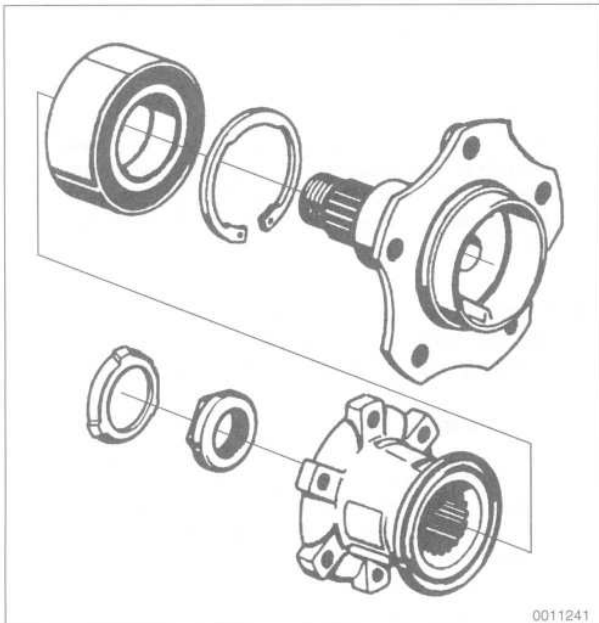

Fig. 6. Rear wheel bearing assembly.
The wheel bearing is pressed into the trailing arm and secured with a large circlip. The stub axle is pressed into the bearing and held in place by the drive flange collar nut. See Fig. 6.
9. Remove the large circlip from the trailing arm bearing housing. See Fig. 6.